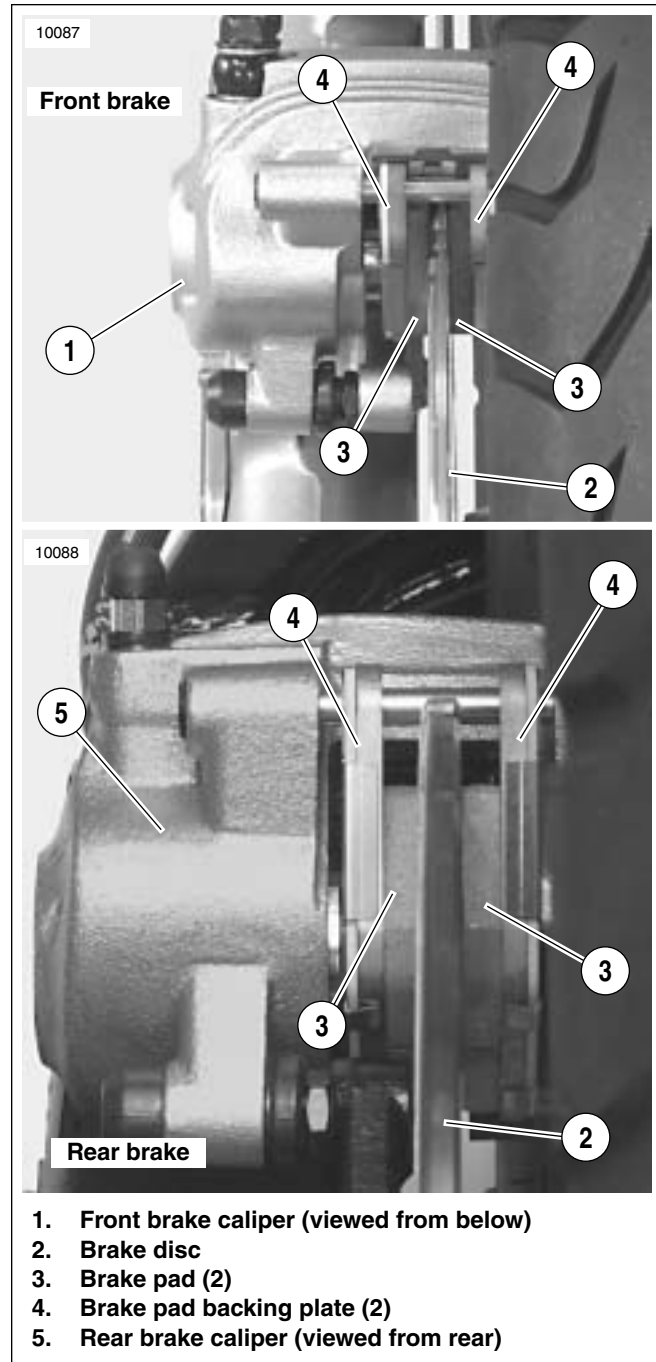

Figure 1-28. Brake Pad Inspection
See Figure 1-28. Replace brake pads (3) if brake pad friction material on either the front or rear caliper is worn to 0.04 in. (1.02 mm) or less above the backing plate (4). Always replace both pads in a caliper as a set. See BRAKE PAD REPLACEMENT-FRONT or BRAKE PAD REPLACEMENT-REAR later in this section.